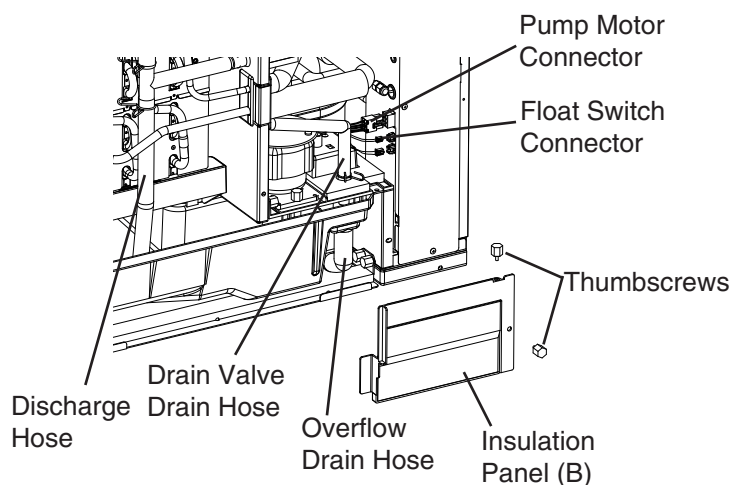

Fig. 14
- 7) Remove the front panel, then remove insulation panel (A) (the large insulation panel in front of the evaporator) by lifting up the panel slightly and pulling it towards you.
- a. Remove the 2 thumbscrews securing insulation panel (B), then remove insulation panel (B). See Fig. 14.